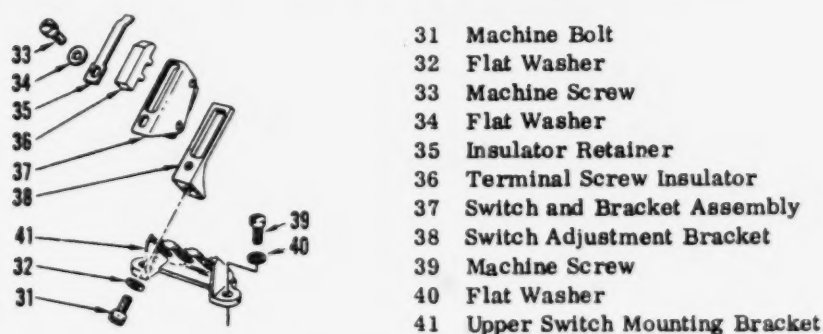

Figure 3. Pressure Cutout Backup Switch.
a. Remove the machine screw and flat washer that retain the insulator retainer, figure 3 #35. Remove the insulator retainer and the terminal screw insulator. Detach the two electrical leads from the terminal screws.
b. Remove the socket head cap screw and flat washer that retain the switch adjustment bracket, figure 3 #38. Remove the bracket and the switch.